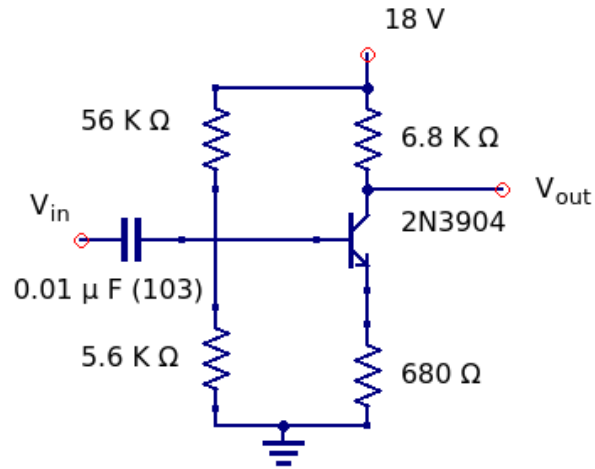

Figure 6: Common emitter amplifier.
- Measure the resistance and capacitance of all the elements of the amplifier circuit shown in Figure 6
- Construct the amplifier circuit shown in Figure 6